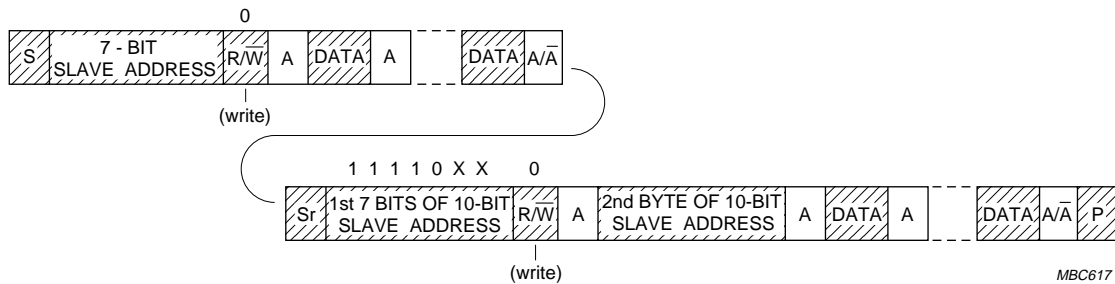

Fig.30 Combined format. A master transmits data to two slaves, one with a 7-bit address, and one with a 10-bit address.
- Combined format. 10-bit and 7-bit addressing combined in one serial transfer (Fig.30). After each START condition (S), or each repeated START condition (Sr), a 10-bit or 7-bit slave address can be transmitted. Figure 30 shows how a master transmits data to a slave with a 7-bit address and then transmits data to a second slave with a 10-bit address. The same master occupies the bus all the time.